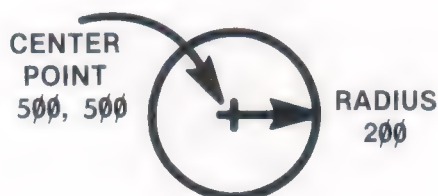

FIGURE 2-7
In this example, the plotter is selected (;:). Home position is specified (H). Absolute pen positioning is specified (A). The coordinate user addressability is set to .005" (EC5). Circle Plot is specified, and the pen draws a circle having a radius of one inch around the circle's center point coordinate 500,500, (CC) (see Figure 2-7). The radius was derived from the plotter's user addressability times the radius specifier ($.005" \times 200 = 1$ inch).